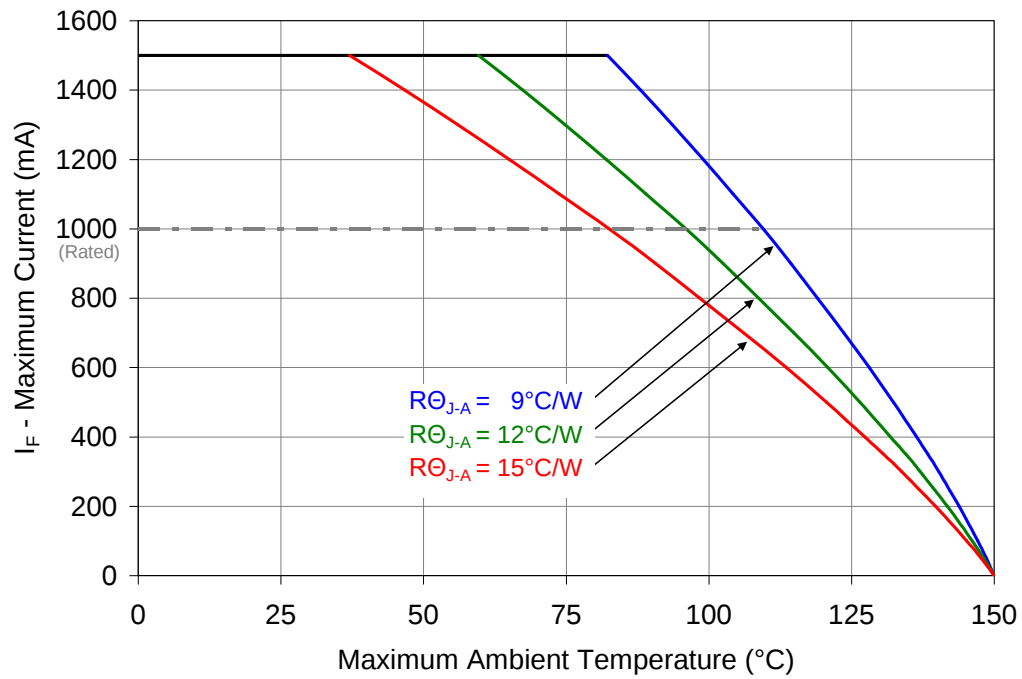

Figure 11: Maximum forward current vs. ambient temperature based on $T_{J(MAX)} = 150^{\circ}\text{C}$.
- Maximum DC forward current is determined by the overall thermal resistance and ambient temperature. Follow the curves in Figure 11 for current derating.
Notes for Figure 11: